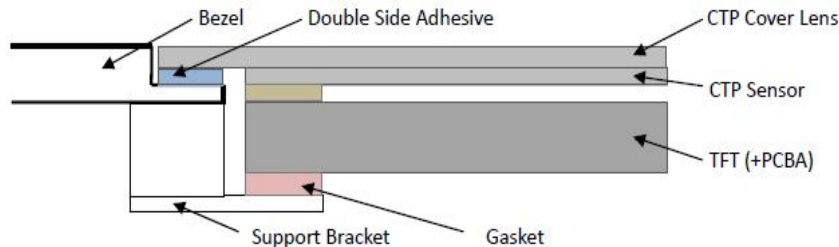

Figure 1
7.1 Surface Mounting (Figure 1)
7.1 嵌入安装（附图 1）